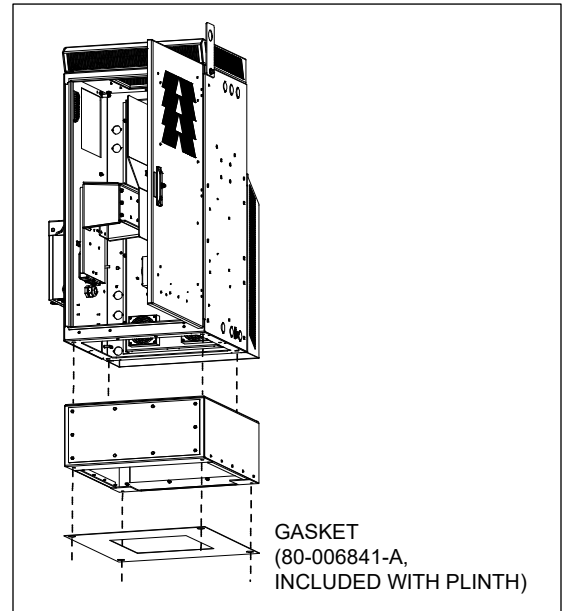

Figure 4
3. Install the gasket by positioning it on the pad with all mounting holes aligned with the holes on the pad as shown in Figure 4.
9. Lower the CUBE onto the plinth, ensuring that the mounting holes on the CUBE remain aligned with the holes on top of the plinth (Figure 4).